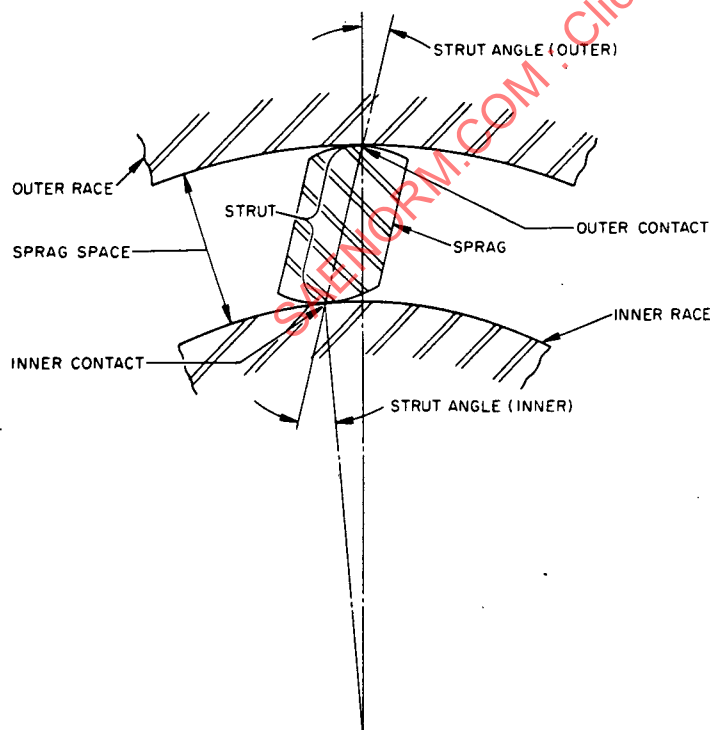

FIG. 5—SPRAG ONE-WAY CLUTCH DIAGRAM
4.3.1 **OUTER RACE**—That element which provides the outer cylindrical surface through which the sprags transmit torque. (See Figs. 5–8.)
4.3.2 **INNER RACE**—That element which provides the inner cylindrical surface through which the sprags transmit torque. (See Fig. 5.)
4.3.3 **SPRAG**—The cam profile locking element of the clutch. Several are usually used in each clutch. (See Figs. 5–8.)
4.4.1 **SPRAG SPACE**—The radial distance between the inner and outer race cylindrical surfaces. (See Fig. 5.)